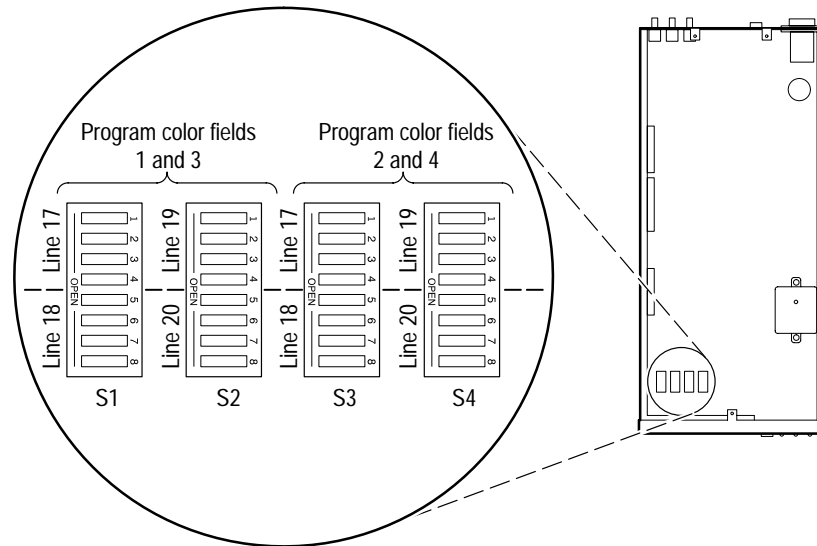

Figure 6-3: VITS selection DIP switches
- 11.** Set S1 VITS selection dual-inline-package (DIP) switch segments 1 and 4 closed, 2 and 3 open (0110). See Figure 6-3 for the location of S1.